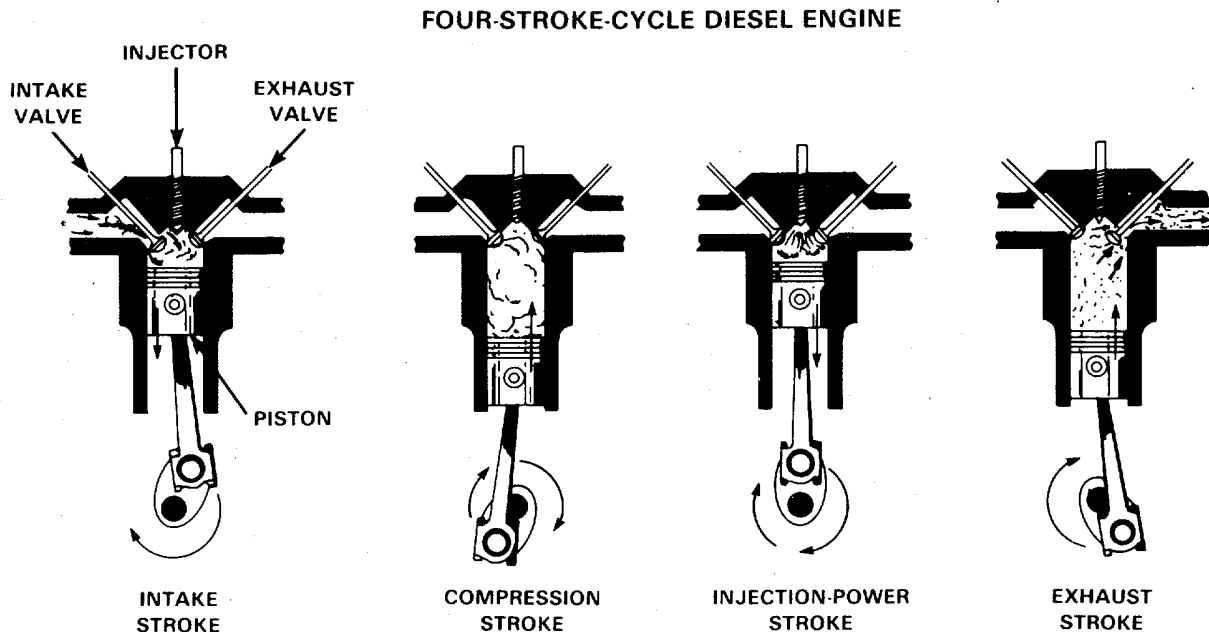

FIGURE 1-5. Diesel Engine Cycles.
a. Diesel Engine Cycles. It is easier to understand the function of engine parts if you know what happens in the combustion chamber during each of the four piston strokes of the cycle. The four strokes happen in this order: intake stroke, compression stroke, power stroke, and exhaust stroke (FIGURE 1-5). In order for the four strokes to function properly, valves and injectors must act in direct relation to each of the four strokes of the piston. The intake valves, exhaust valves, and injectors are camshaft actuated, linked by tappets or cam followers, push rods, rocker levers, and valve crossheads. The camshaft is driven by the crankshaft gear and that means rotation of the crankshaft directs the action of the camshaft, which then controls the opening and closing sequence of the valves and the injection timing (fuel delivery).
(1) Intake Stroke. During intake stroke, the piston travels downward, the intake valve is open, and exhaust valves are closed. The downward travel of the pistons allows air from the intake manifold to enter the cylinders. The intake manifold is pressurized with air from the turbocharger.
(2) Compression Stroke. At the end of the intake stroke, the intake valves close and the pistons starts upward on the compression stroke. The exhaust valves remain closed. At end of compression stroke, air in combustion chambers has been forced by the pistons to occupy a smaller space than it occupied at beginning of stroke, causing the air temperature to rise to a point high enough for ignition of fuel. During last part of compression stroke and early part of power stroke, a small metered charge of fuel is injected into the combustion chamber. Almost immediately after fuel charge is injected into combustion chamber, fuel is ignited by the existing hot compressed air.